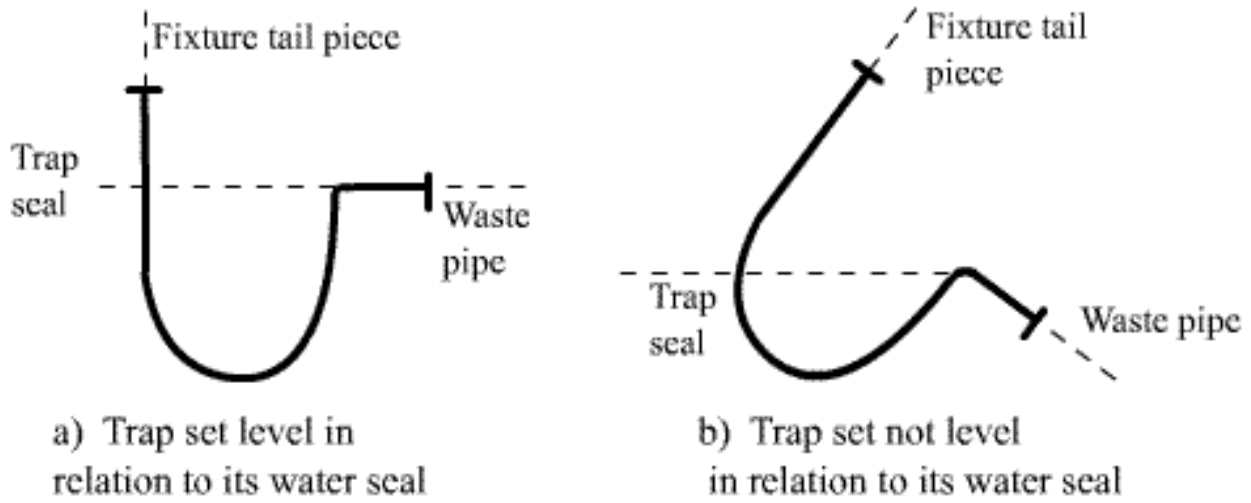

Figure 6.3. Trap installation a) correct b) incorrect
- 4) All traps shall be installed level in relation to their water seal (Figure 6.3)